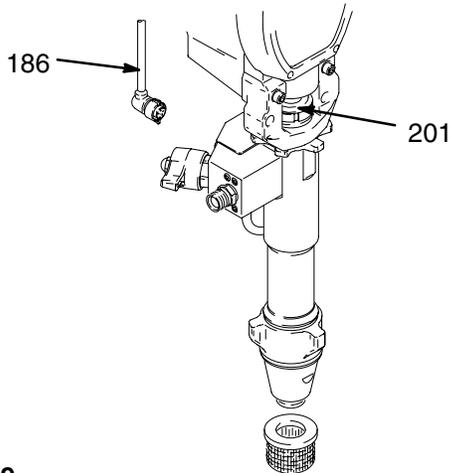

Fig. 9
1. Flush pump. Relieve pressure. Fig. 9. Cycle pump with piston rod (201) in its lowest position.
2. Fig. 9. Disconnect transducer cable (186).
Fig. 13. Screw jam nut down onto pump until it stops. Screw pump up into bearing housing until it is stopped by jam nut. Back off pump and jam nut to align pump outlet with opening in cover (134). Tighten jam nut by hand, then tap 1/8 turn with a plastic hammer to approximately 75 +/- 5 ft-lb (102 N-m). Fig. 9. Connect transducer cable (186).